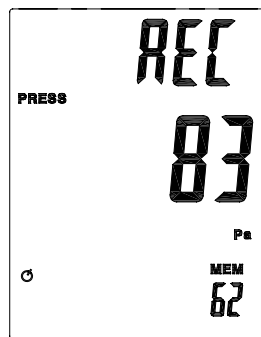

Fig. 15
1. Press **SAVE/CLEAR** button to save the reading sample into memory. The meter will emit a short beep. The number of samples saved will be indicated under the **MEM** icon on lower right of screen (Fig. 15).
2. Press and hold the **Avg/Rec** button for two seconds to recall sample data. The **REC** icon will appear on the screen (Fig. 15).